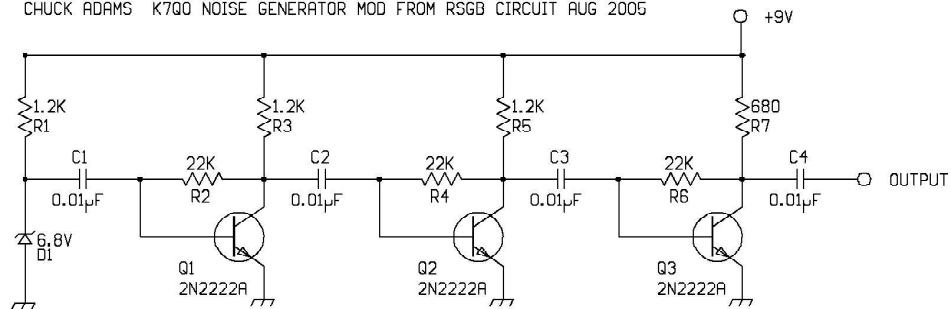

Figure 1. K7QO noise generator
The parts placement is in Figure 1. After you etch the board, you can use a pair of tin snips to cut out the board. Trim as close to the outline as you can. Then, take some sand paper or a file and clean up the edges. It only takes a couple of minutes. Don't get too aggressive.
Step 8 - Using the #4 hardware, attach the main probe tip to the board. Put the Ring Terminal on the same side of the board as the traces. Insert the #4 screw from the other side. Put the lock washer on, then the nut, and tighten. Line up the probe tip so that it is parallel to the sides of the board as shown in Fig. 1. Now solder the sleeve of the terminal to the board.